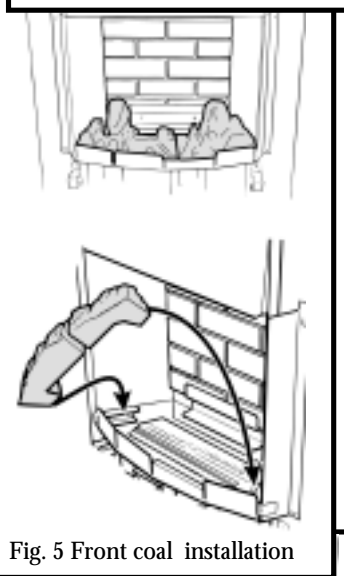

Fig. 5 Front coal installation
2. Place the two halves of the front base coal in the burner compartment so that they rest on the ledges at the sides and front. Pull the coals forward so that they are immediately behind the front rim of the burner compartment (See fig. 5).